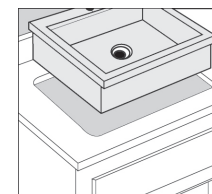

Figure 4
- Apply a "rope of plumber's putty or caulk around the perimeter of the underside of the sink. Flip the sink over and carefully place it into the countertop opening, with all of the drains and attachments secured. Press down firmly to seat the sink against the countertop (Figure 4).